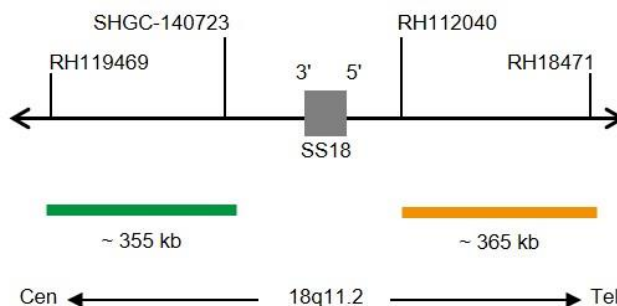

Fig. 1: SPEC SS18 Probe map (not to scale)
- ZyGreen (excitation 503 nm/emission 528 nm) labeled polynucleotides (~10 ng/μl), which target sequences mapping in 18q11.2* (chr18:23,109,942-23,466,217) proximal to the SS18 breakpoint region (see Fig. 1).
- ZyOrange (excitation 547 nm/emission 572 nm) labeled polynucleotides (~4.5 ng/μl), which target sequences mapping in 18q11.2* (chr18:23,772,255-24,137,169) distal to the SS18 breakpoint region (see Fig. 1).